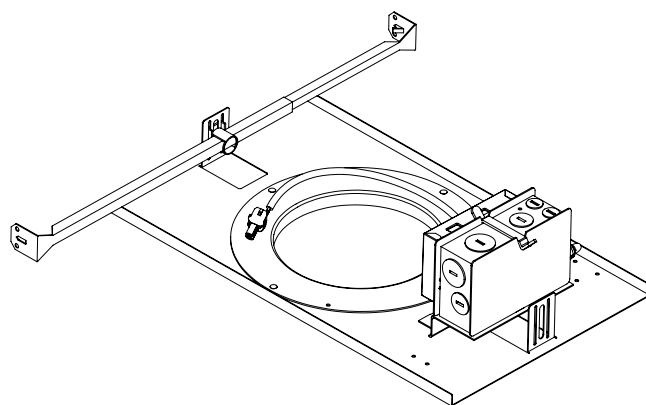

Figure 2:
2. To install fixture, remove faceplate by loosening (1) 1.5mm hex head screw located on side of faceplate. Rotate faceplate counter-clockwise to remove. See Figure 2.
3. Ensure mounting claws are set to top most position and are turned in towards fixture. Mounting claws are raised and lowered via (2) T10 screws located under faceplate.
4. Push luminaire up into ceiling opening and tighten (2) T10 screws to secure luminaire into place. Caution: **Tighten screws evenly by hand, do not use power tools!**
5. Replace faceplate. Align grooves in faceplate with notches in fixture housing, rotate faceplate clockwise and then tighten (1) 1.5mm hex head screw to secure faceplate into place. See Figure 2.